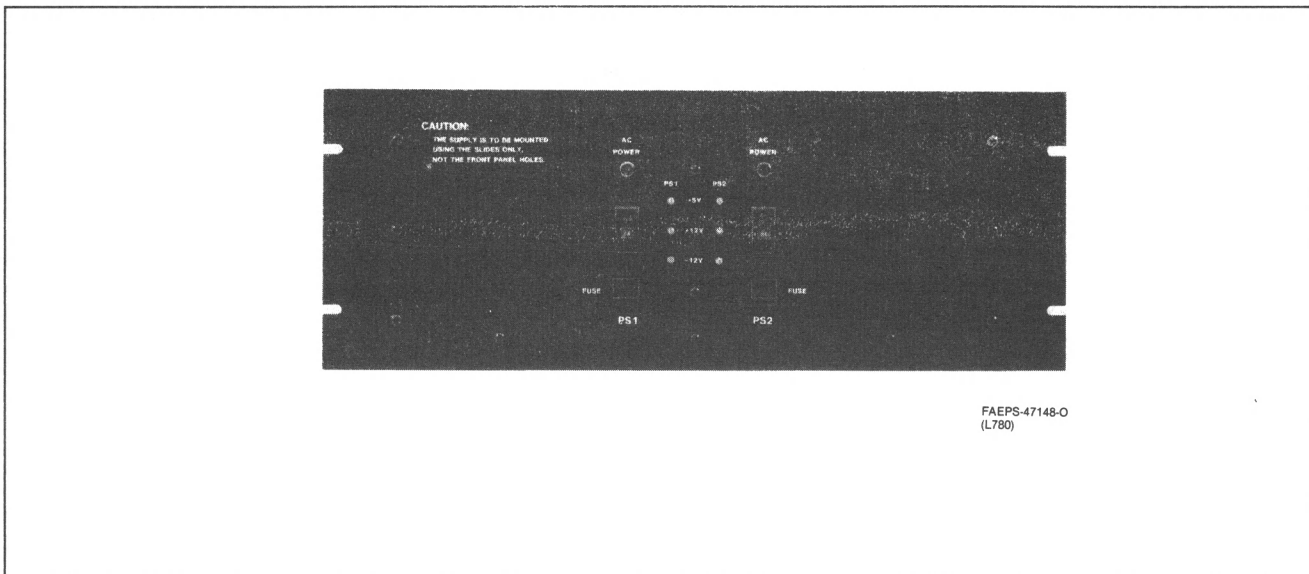
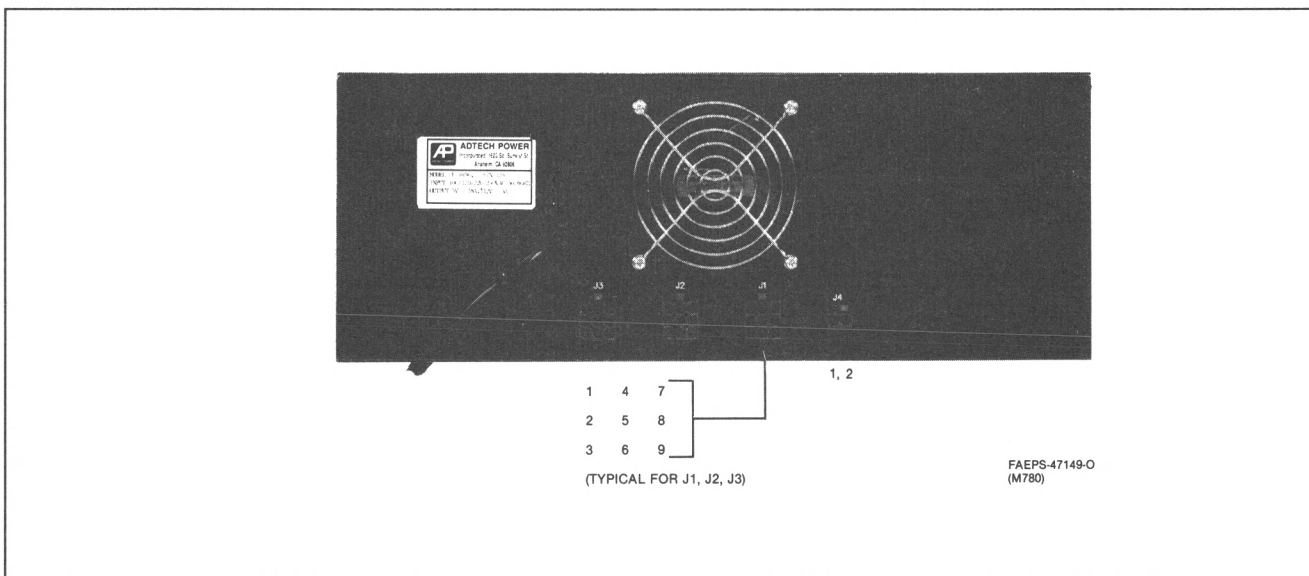

Figure 3. RDU Power Supply Front Panel Detail
Figure 4. RDU Power Supply Rear Panel Detail
1.4 The dc outputs are distributed to three 9-pin connectors on the rear of the unit. Sense inputs for the power supply modules are combined and are accessible via a 2-pin connector also on the rear panel (see Figure 4). The front panel contains an ac power lamp, switch, and fuse. DC power LED indicators for each power supply module are also located on the front panel. (See Figure 3.)
1.5 Pin assignments (see Figure 4) for the three 9-pin dc output connectors are as follows:
Pin assignments for the 2-pin Sense connector (see Figure 4) are as follows: